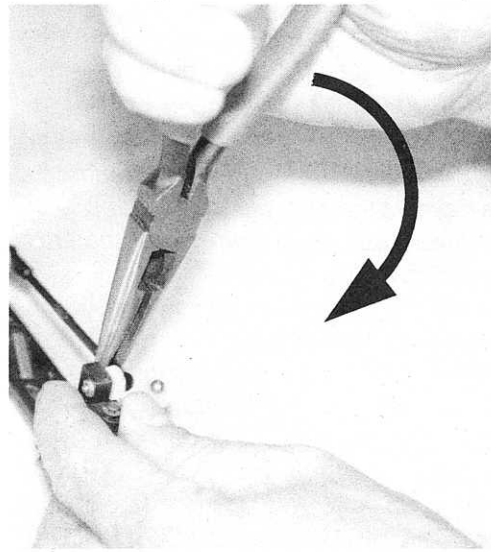

Fig. 20
□ **Fig. 20** The plastic ball end cups can be removed from the S.S. ball ends by holding the cups next to the ball with your needlenose pliers and twisting the cup off of the ball end.